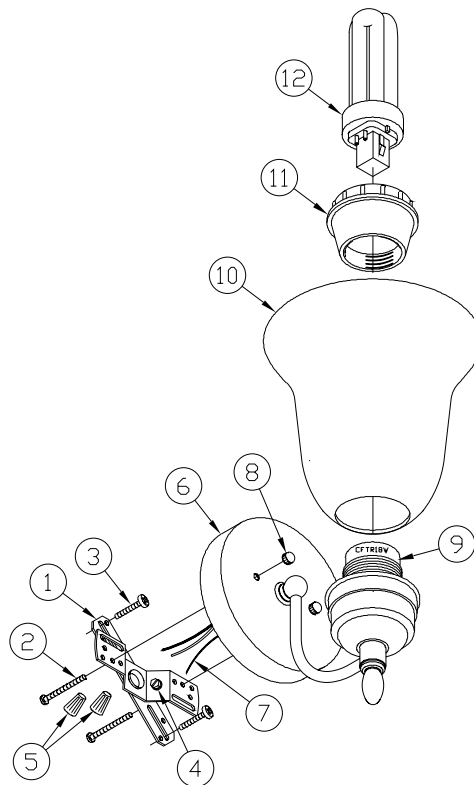

Fig.1
1. **Remove fixture components and parts pack(s).** Check that all parts are included. _____ **See Fig 1.**